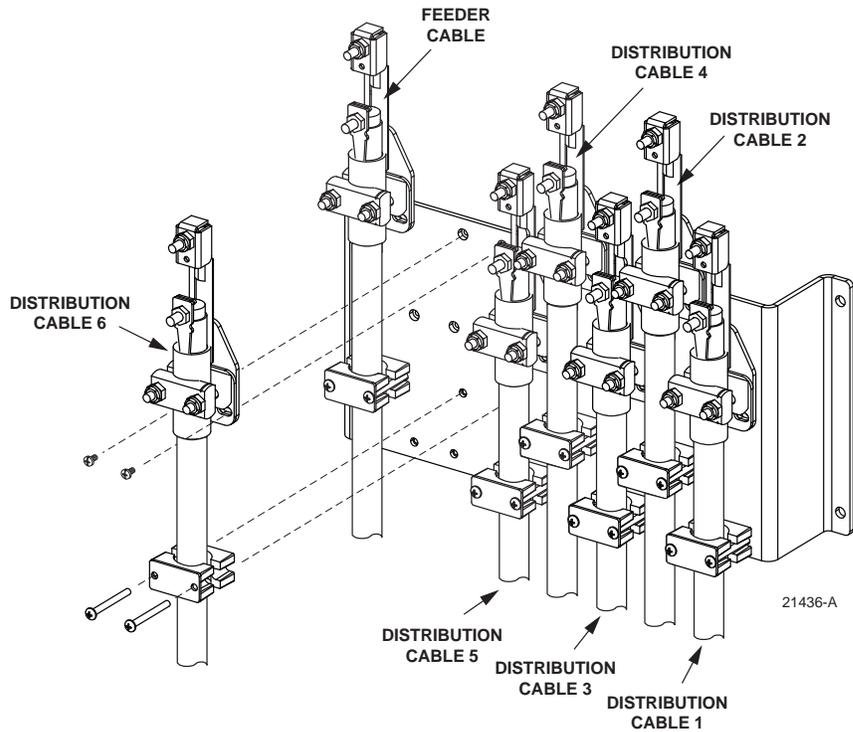

Figure 20. Secure Distribution Cable to Cable Bracket
3. Locate the cable clamping position specified for the next distribution cable as shown in Figure 20.